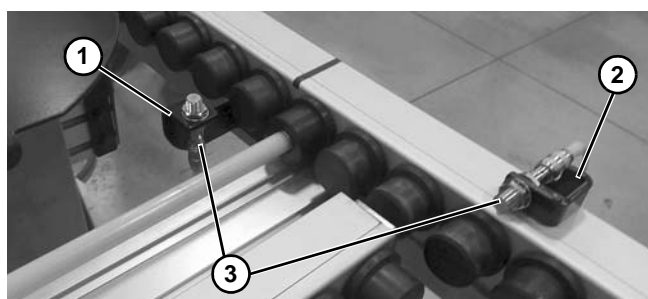

Figure 31
Optional bottom mount (Figure 31, item 1) or side mount (Figure 31, item 2) sensor brackets can be used to mount a 12 mm barrel proximity sensor (Figure 31, item 3).